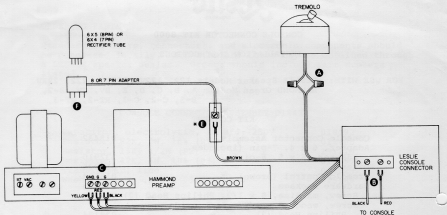

Figure 1. Interconnections, Console Connector Kit With Organ
5. Using one of the wire nuts provided, fasten together the stripped ends of the AC wires from the tremolo control and the console connector (A, figure 1). It is not necessary to twist the wires together before inserting them in the wire nut.
6. Remove the wires from the terminals marked G, on the organ pre-amplifier. Connect the wires to the screw terminals on the console connector chassis (B, figure 1).
7. Attach the red and black wires from the console connector to the G terminals on the pre-amplifier (C, figure 1).
8. Attach the yellow wire from the console connector to the GND (ground) terminal on the organ pre-amplifier (D, figure 1).
Attach the brown wire from the console connector to the black wire from the 8-pin B+ adapter supplied in the kit (E, figure 1). Cover this connection with the insulating sleeve. Remove the 6X5 rectifier tube from its socket. Insert the 8-pin adapter into this socket; then plug the tube into the adapter (F).